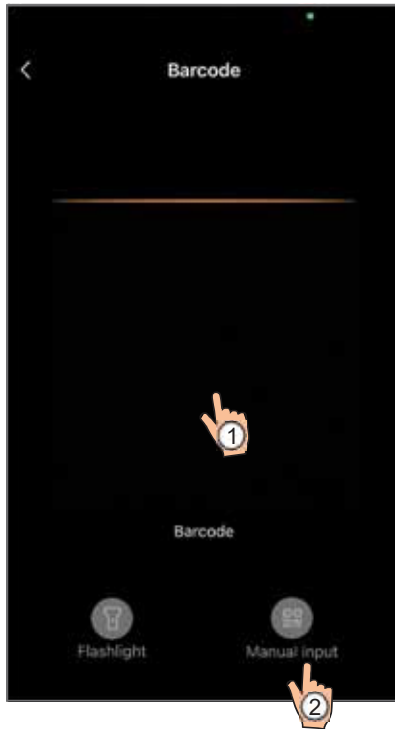

Fig.7 Scanning WF barcode
1. Scanning the WF code on the fuselage (Fig.7) or manual input to enter the WF code (Fig.8).